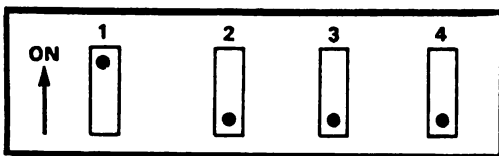

Figure D-4 Device Address /40
- b. To set the address at /40 -- Place the Switch 1 in the ON position; place all other switches in the OFF position. Refer to Figure D-4. An address of /40 indicates that there are two terminal processors. The second processor, which must be set at /40, control Terminals 5-8.